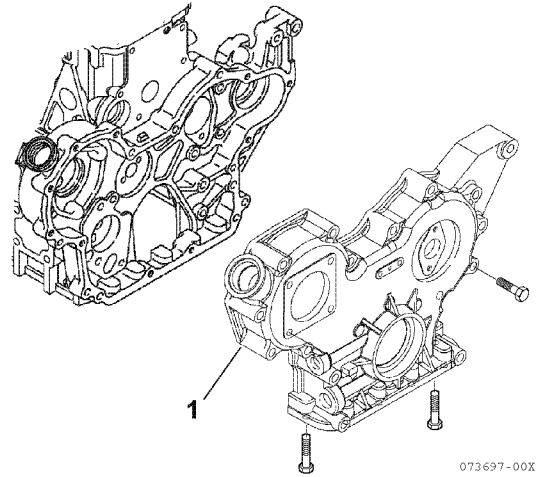

Figure 6-111
- Install the idler gear (A), idler gear shaft, and idler gear bushing while aligning the timing marks A and C. At this time, direct the punch mark on the idler gear shaft end surface to the upper part of the engine.
- While aligning the timing marks B and D of the idler gear (B), install the idler gear (B), idler gear shaft, and idler gear bushing.
- Apply a continuous bead of ThreeBond Liquid Gasket No. 1207F, YANMAR Part No. 977770-1207F to the mounting area of the gear case cover (1, **Figure 6-111**). Be sure to circle the bolt holes.